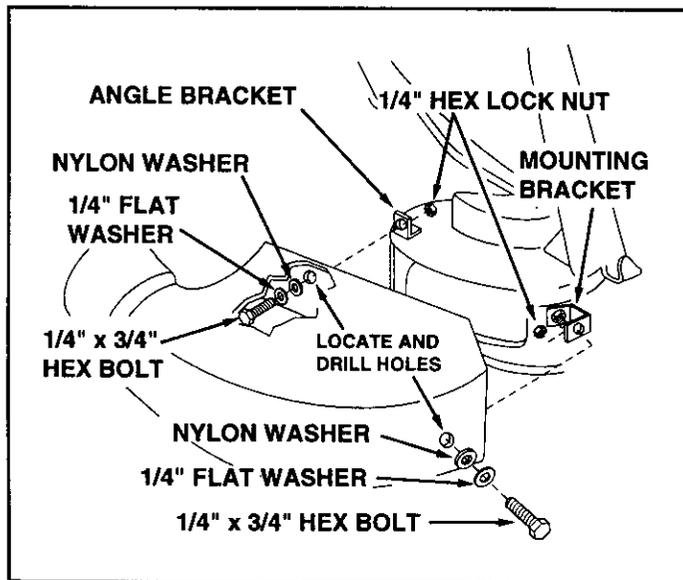

FIGURE 34
- Fasten the angle bracket and the mounting bracket to the mower deck as shown in figure 34. Use two 5/16" x 3/4" carriage bolts, 5/16" flat washers and 5/16" lock nuts. The bolt heads go on inside of mower deck.
- Drill two 5/16" diameter holes in the deck adapter that will align with the holes in the angle bracket and the mounting bracket. Assemble the deck adapter to both brackets using two 1/4" x 3/4" hex bolts, 1/4" flat washers, nylon washers and 1/4" hex lock nuts. See figure 34.